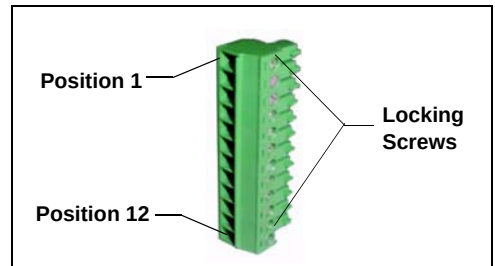

Figure D-6. 12-Position Connector Plug
1. Locate two twisted pairs of wires (P/N 043598) and 12-position connector plugs (P/N 923686) (see Figure D-6) in the ICS-1500 and AS or AS50 (USB) Ship Kits.